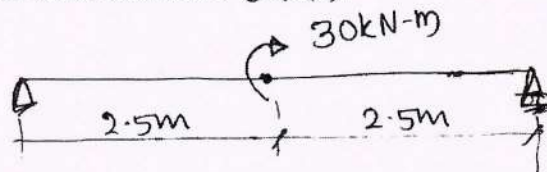

Fig.Q6(b)
- b. Draw SFD and BMD for beam shown in Fig.Q6(b).